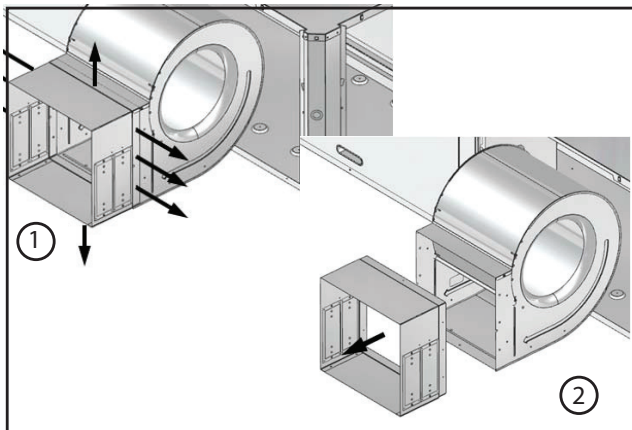

Fig. 35 - Blower Collar Removal
9. Remove and discard blower collar by removing (8) screws. See Fig. 35.